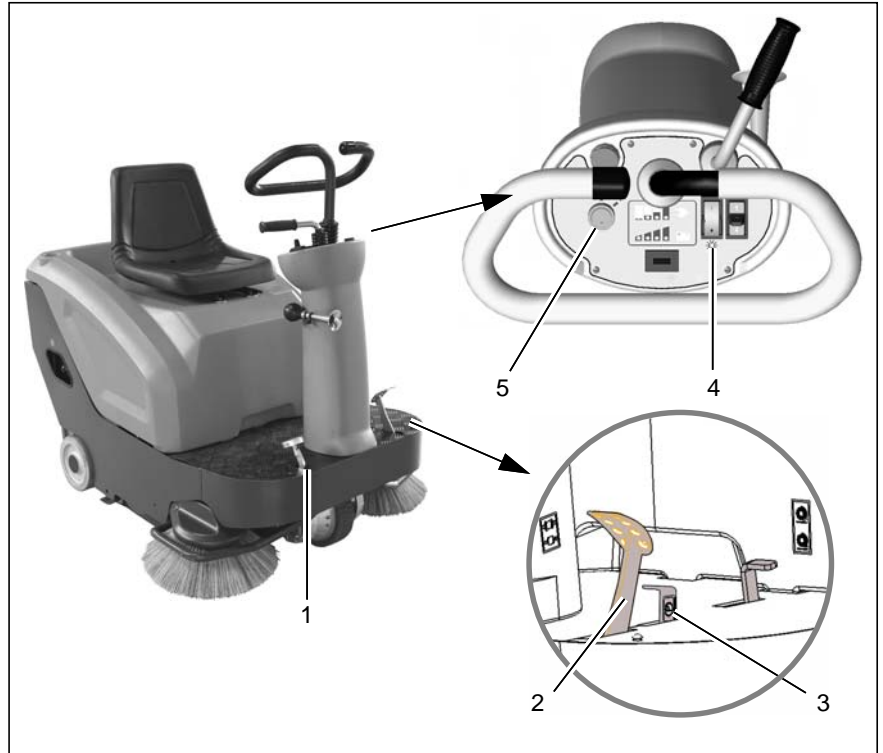

Fig. 11
1. Move the accelerator (Fig. 11/1) slowly to its zero setting. The vehicle slows down to a stop.
If this braking effect is insufficient, you can also apply the service brake (Fig. 11/2) to decelerate more quickly.
2. Apply the parking brake (Fig. 11/3) to its end position and lock in place.
3. Switch off the sweeping functions with the button (Fig. 11/4).
4. Switch the vehicle off with the key switch (Fig. 11/5).